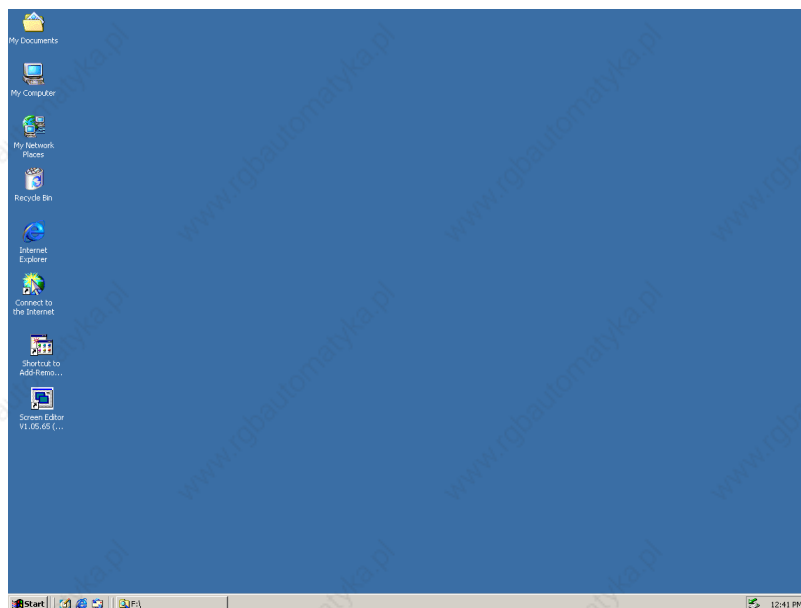

Fig. 2.1.1 Open Microsoft Windows
1. Step 1: Please start-up your computer to Win2000/WinXP system. (Fig. 2.1.1)